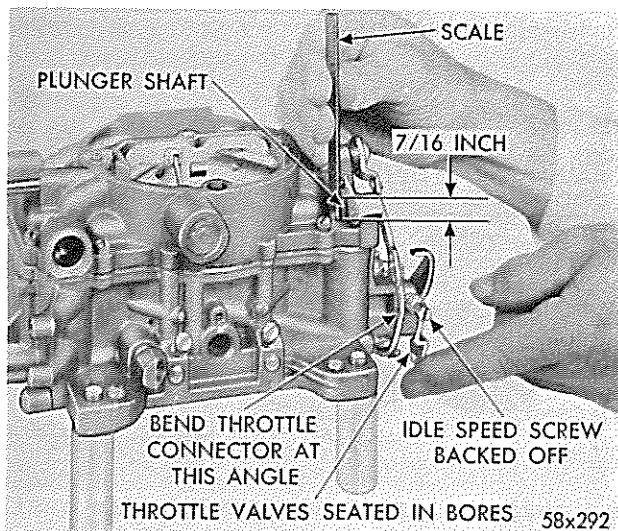

Fig. 9 Checking Accelerator Pump Travel
(1) Move the choke valve to wide open position, to release the fast idle cam. Back off the idle speed adjusting screw (curb idle) until the throttle valves are seated in the bores.
(2) Measure the distance from the top of the plunger shaft, using a "T" scale, as shown in Figure 9. This distance should be 7/16 inch on AFB 2903S.
(3) If an adjustment is necessary, bend the throttle connector rod at the lower angle, using Tool T-109-213, until correct travel has been obtained.